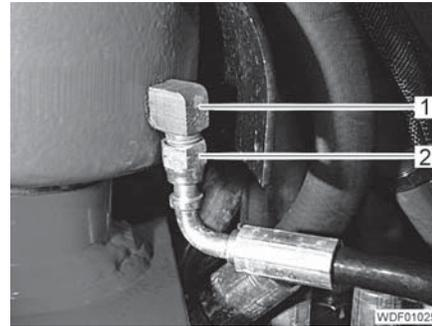

Fig. 299 Connection of the remote lubrication line
- Screw in the angle screw connection (Fig. 299,1).
- Screw the remote lubrication line (Fig. 299,2) onto the angle screw connection and tighten.